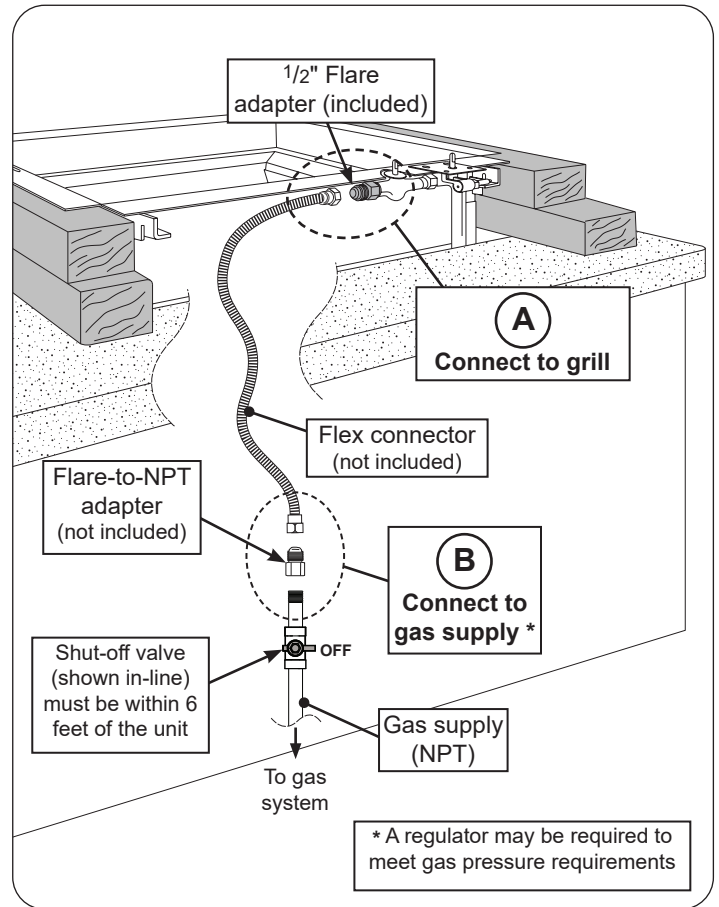

Fig. 26-1 Household L.P. & Nat. gas diagram
2. Locate the supplied 1/2" flare adapter that is attached to the burner valve. Connect a flex connector (not included) to the 1/2" flare adapter. See Fig. 26-1, A. Support the adapter with a wrench to avoid applying excessive torque to the valve while tightening. Do not use pipe compound on the flare fitting.
3. Route the other end of the flex connector to the gas supply (see Fig. 26-1, B).